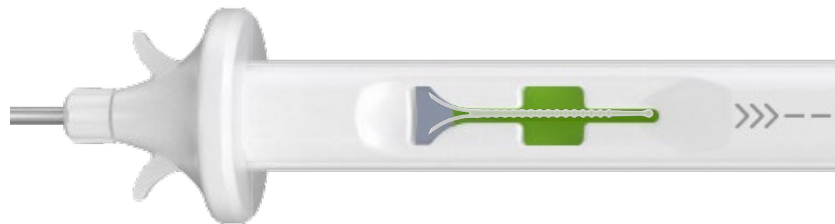

Figure 5: Delivery Device with Implant Loaded
- Using sterile surgical forceps transfer the Implant from the plastic tray to the implant loading port of the Delivery Device as shown in **Figure 5**.